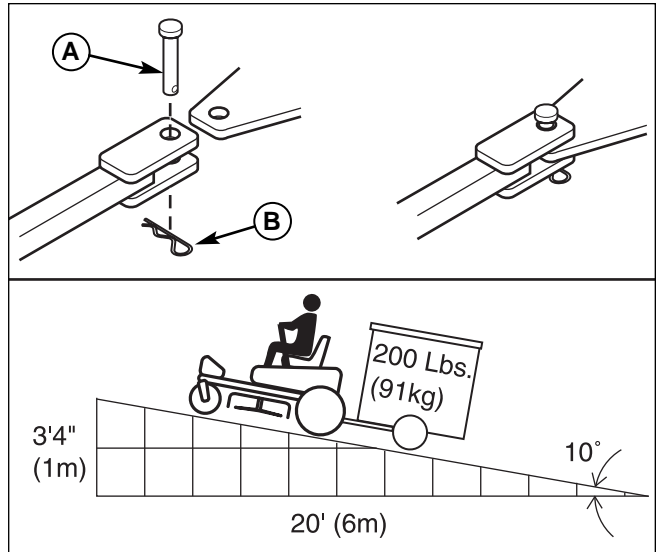

Figure 12. Trailer Weight Recommendations
The maximum weight of a towed trailer should be less than 200 lbs (91kg). Secure the trailer with a appropriately sized clevis pin (A, Figure 12) and clip (B).